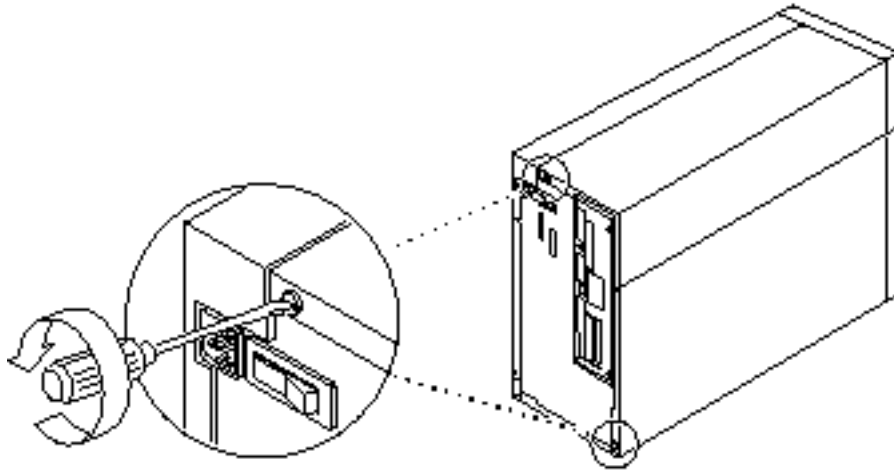

Figure 2-27 Installing the Left Outer Panel
- 7. Tighten the two Phillips-head captive screws at the rear of the Netra 150 server (Figure 2-27).**